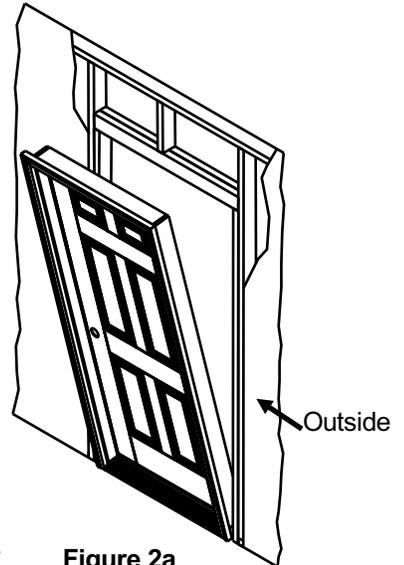

Figure 2a
**2** For a single door, remove the bolt from the plastic door plug. From outside, set the door unit into the opening per Figure 2a. For a heavier door system, get help when lifting, setting and aligning.